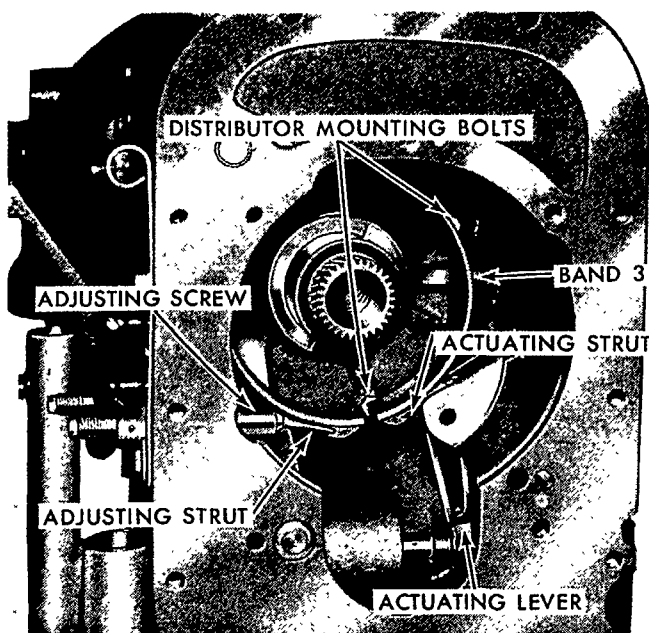
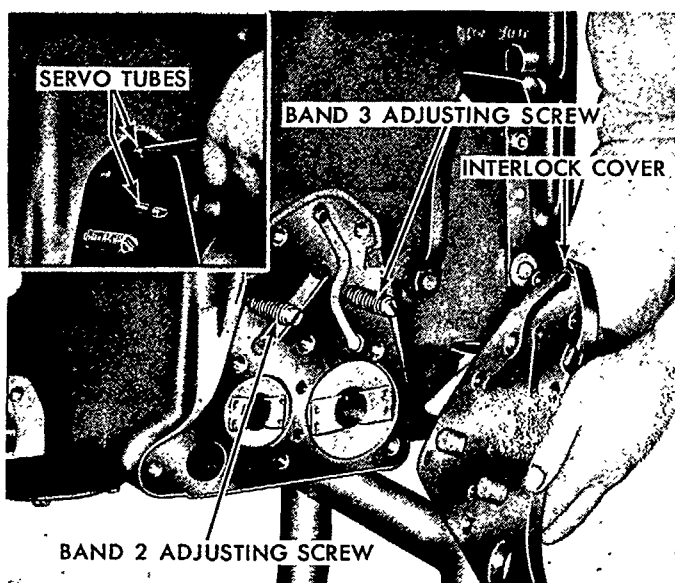

Figure 49
Figure 50
10. Manually compress No. 3 band, shown in Figure 49, while holding the adjusting strut and actuating strut. Remove the band and two struts from the case.
13. Remove the eight servo 2 and 3 cover attaching bolts and remove the cover and gasket. See Figure 50.
14. Loosen the four distributor mounting bolts, shown in Figure 49, and remove the two servo hydraulic oil tubes from the distributor (but not from the transmission case) by twisting and pulling at the same time, as shown in the Insert, Figure 50.
21. Install band 3 adjusting screw and secure band 3 in position with the depression in the band end toward the adjusting screw. Join the band to the screw with the adjusting strut and to the servo lever with the actuating strut. See Figure 49.
22. Install the servo 2 and 3 cover and gasket. See Figure 50. Install the oil inlet screen assembly. Install and tighten the servo cover attaching bolts evenly to the specified torque, page 83. Install bands 2 and 3 sealing washers and lock nuts.